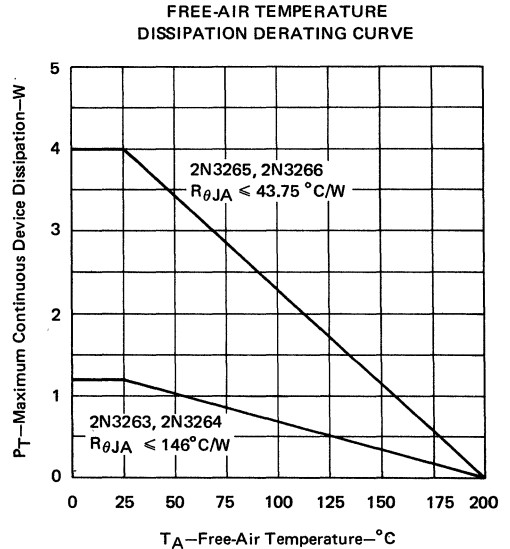

FIGURE 9
- For operation above 25°C free-air temperature refer to Dissipation Derating Curve, Figure 9.